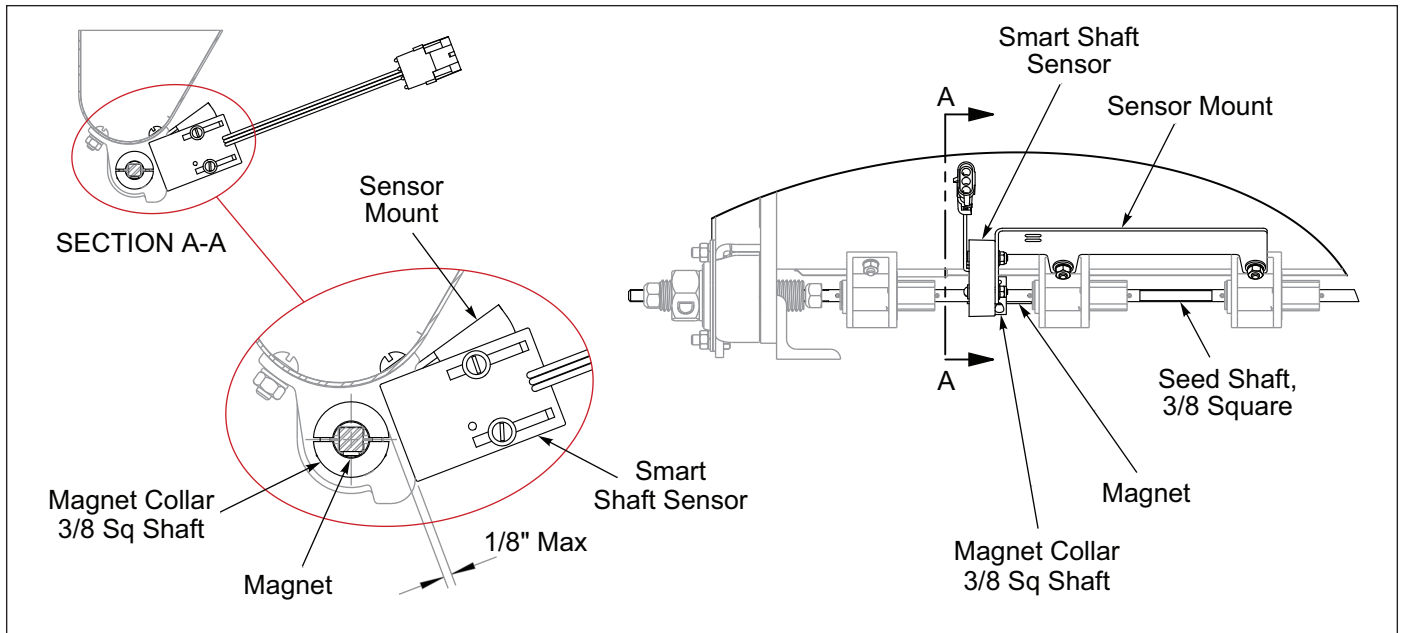

Figure 2-7: Brillion Elite Mini Monitor - Front Small Meter Seed Box Seed Shaft Sensor
4. On the RH side of each Seeder Unit a Sensor Mount is mounted on two seed Cups. Install a Smart Shaft Sensor to the Sensor Mount with sensor provided hardware and #8-32 Flange Locknuts. Adjust the Smart Shaft Sensor so that it is 1/8" Max away from the pre-assembled Magnet Collar/Magnet Wheel Assembly on the Seed Shaft. **See Figures 2-7 and 2-8.** Connect the Smart Seed Shaft Sensor to each Seeder Harness.